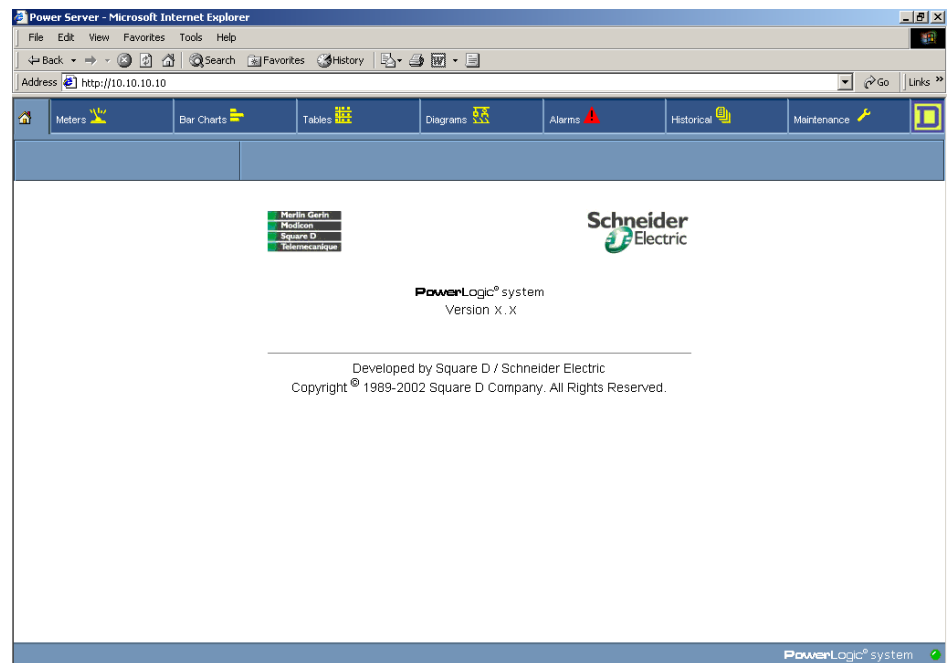

Figure 1: The Power Server PWRSRV750 home page
Figure 1 depicts the Power Server home page. All screens shown in this instruction bulletin depict the PWRSRV750 interface.
- If after typing the IP address, the Power Server user interface displays the home page as shown in Figure 1 on page 2, click Favorites > Add to Favorites and name your Power Server as you choose.
To refresh (reload) the Power Server web pages, click the Home tab in the user interface toolbar. The Power Server interface refreshes and the home page shown in Figure 1 on page 2 displays.
NOTE: If you defined a default page in the Preferences dialog, that page will display instead of the home page shown in Figure 1 on page 2. (See “Working with Lists on the PWRSRV750 Power Server User Interface” on page 37 for instructions on defining a default home page.)